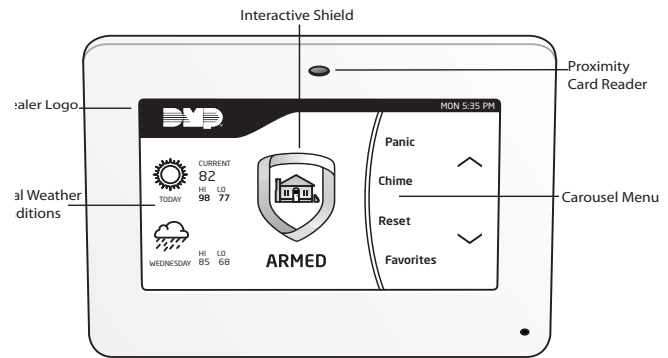

Figure 12: 9862 Graphic Touchscreen Keypad
**On Graphic Touchscreen Keypads**, when instructed to press the first select key, touch select area 1; the second select key touch select area 2; third select key touch select area 3; and the fourth select key touch select area 4. See Figure 12.